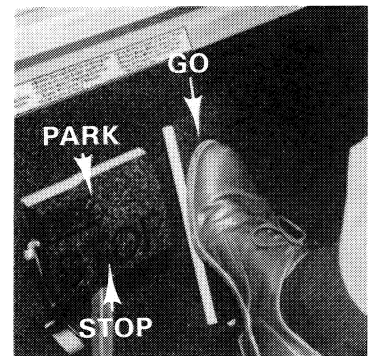

Figure 4
**Accelerator Pedal** - The accelerator pedal is the pedal on the right with the word "GO" molded in it (See Figure 4). When the key switch is "on," the shift lever is in either forward or reverse and the accelerator pedal is pushed, the parking brake will be automatically released and the car will begin moving. As the accelerator pedal is pushed further, the speed will increase.